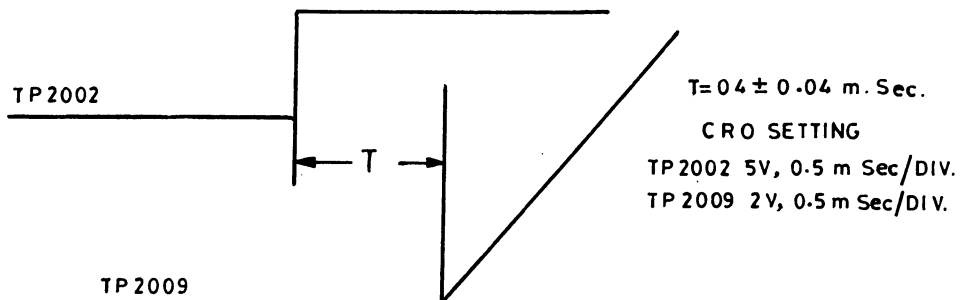

Fig. 11.11
4. Playback the just recorded portion and adjust the tracking control R 2035 on the same section so that both the wave-forms become as shown in fig. 11.11.